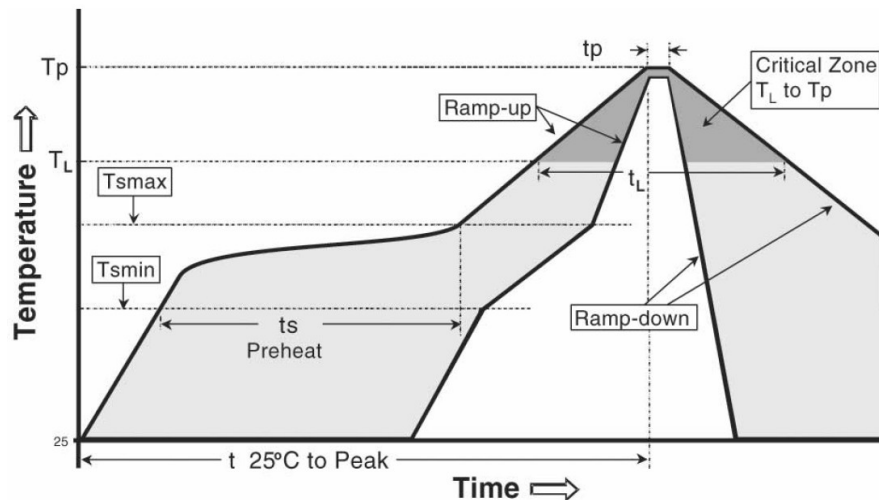

Figure 25: Reflow profile
**⚠** The target values given in Table 7 and Figure 25 are given as general guidelines for a Pb-free process only. For further information, see also the JEDEC J-STD-020E standard [18].